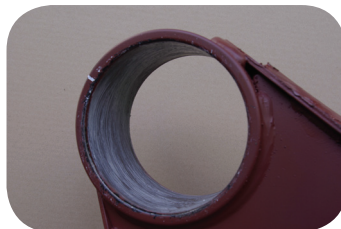
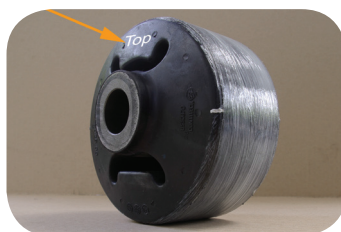
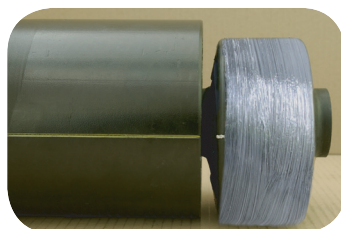

Fig. 9 · Lubricated receptacle
Fig. 10 · Lubricated pivot bushing
Fig. 11 · Correctly aligned pivot bushing
1. Lubricate the threads on the threaded rod (1).
2. Apply mounting paste evenly to the internal surface of the receptacle (6) as illustrated in Fig. 9 and to the external surface of the replacement pivot bushing (7) as shown in Fig. 10.
4. Insert the pivot bushing (7) into the receiver tube end (5) opposite of the centering ring. Make sure that the pivot bushing is properly aligned in the receiver tube using the bushing position locator as a reference point (Fig. 11). The bushing position locator of the replacement bushing must be aligned with the line on the outside of the receiver tube. The orientation index marked "Top" must face upward as illustrated in Fig. 10. If need be, readjust the pivot bushing.